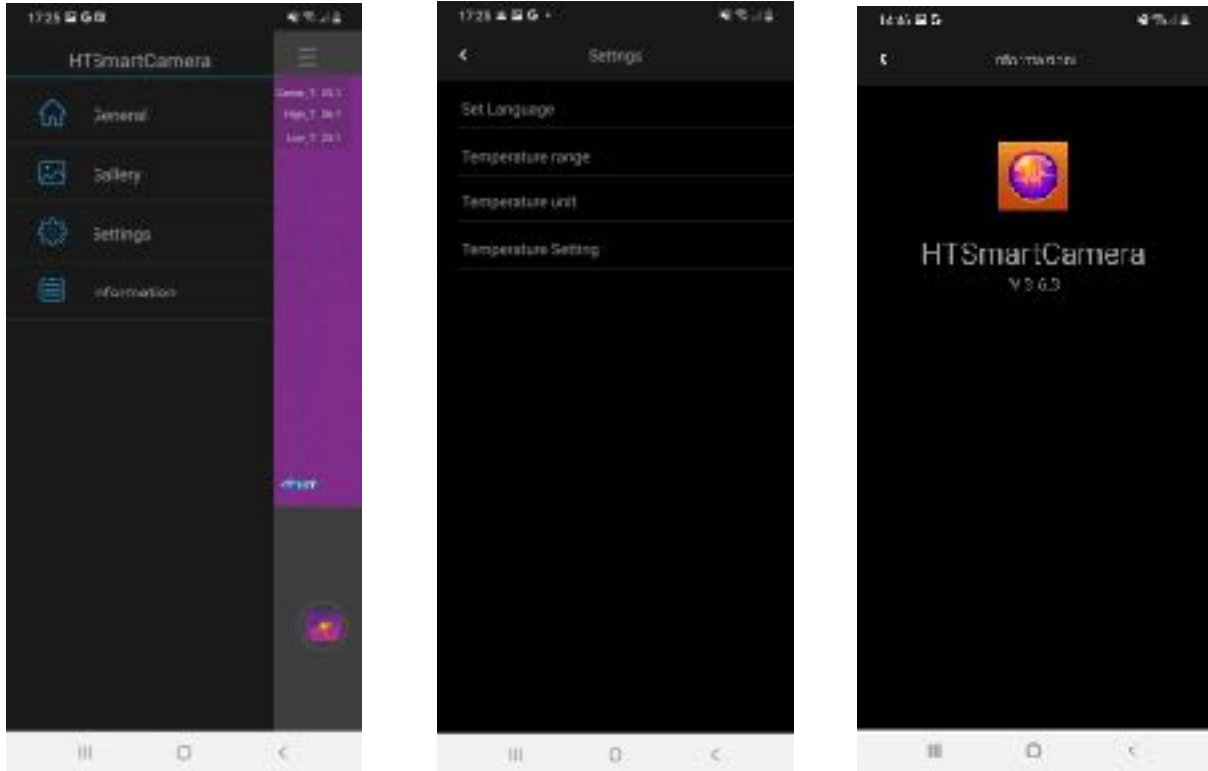

Fig. 4: General menu
1. Tap the icon to enter the general menu of the application. The screen of Fig. 4 – left side is shown on display
Tap this icon to enter the "Settings" section (see Fig. 4 – central part)
Tap this icon to enter the "About" section where the version of the application is indicated (see Fig. 4 – right side)